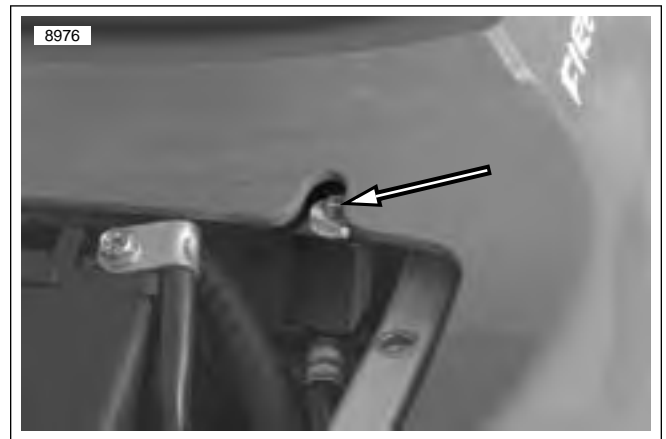

Figure 1-35. Rear Shock Compression Adjustment
3. See Figure 1-35. Using a screwdriver, turn the slotted dial clockwise until it stops. This is the maximum compression damping setting.